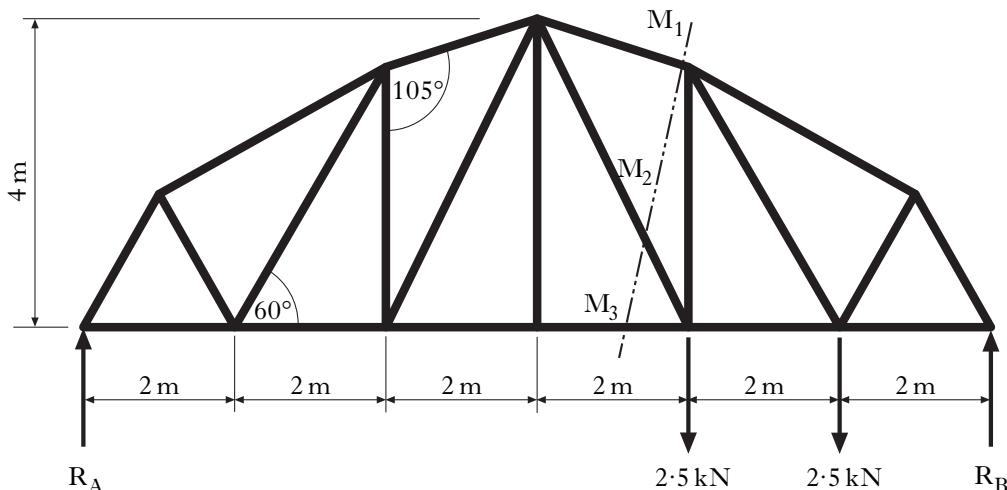

Figure Q8(c)
A simplified diagram of the symmetrical gantry is shown in Figure Q8(c), for a particular loading.
- (e) Using the *method of sections*, calculate the **magnitude** and **nature** of the forces acting in M_1 , M_2 and M_3 , by analysing the section of frame to the left of the cut shown in Figure Q8(c). 9